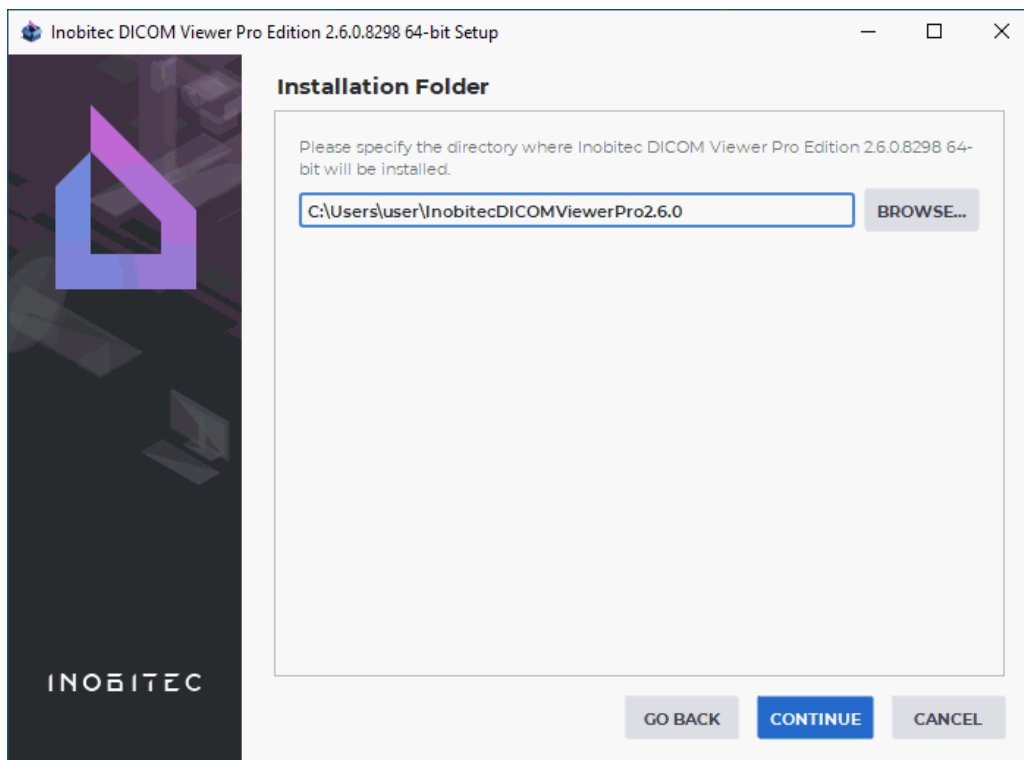

Figure 5: Installation Folder
6. If necessary, change the Installation Folder (Fig. 5). We recommend leaving the default value. Click **CONTINUE**.
To leave the already installed version of the program and select a new folder to install, click **No** and in the window shown in Fig. 5, specify another folder.